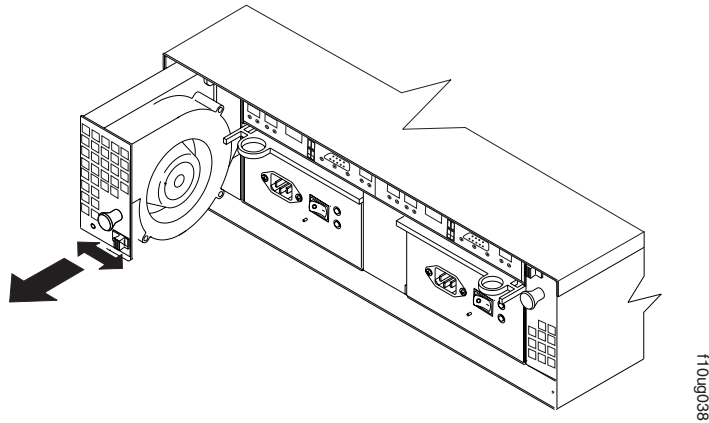

Figure 13. Removing a fan
2. Grasp the handle and pull the fan unit out of the bay, as shown in Figure 13.